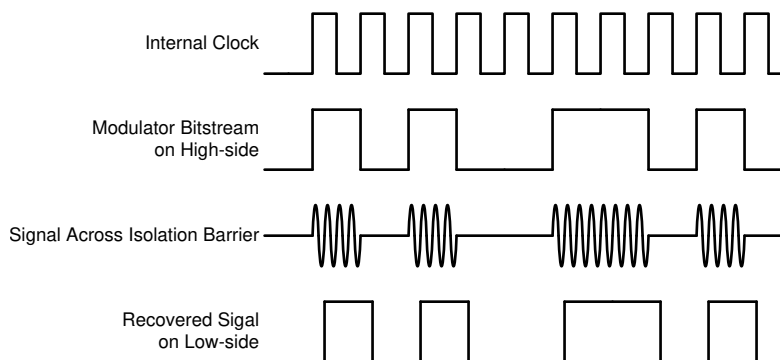

图 6-1. OOK-Based Modulation Scheme
The AMC3301 uses an on-off keying (OOK) modulation scheme, as shown in 图 6-1, to transmit the modulator output bitstream across the capacitive SiO₂-based isolation barrier. The transmit driver (TX) shown in the Functional Block Diagram transmits an internally generated, high-frequency carrier across the isolation barrier to represent a digital *one* and does not send a signal to represent a digital *zero*. The nominal frequency of the carrier used inside the AMC3301 is 480 MHz.